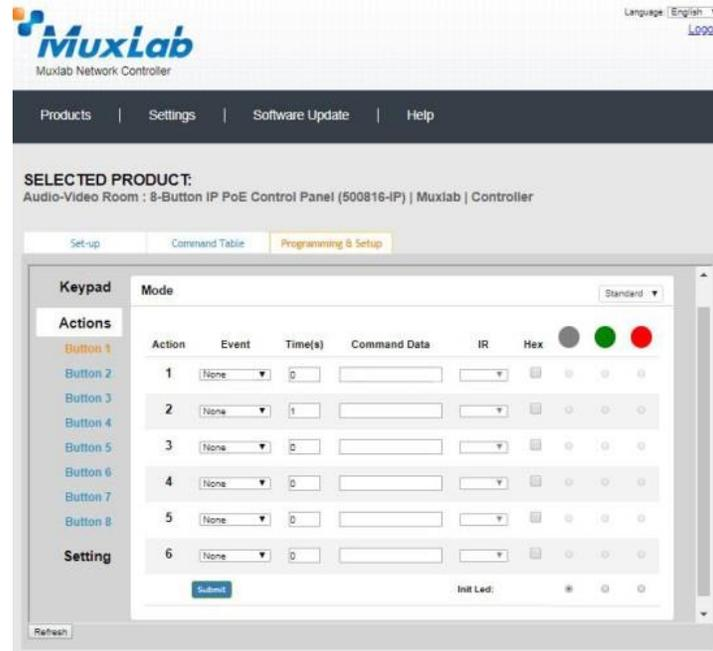

Figure 481: Programming & Setup Tab – Actions
- Actions: Allows the user to program commands for all 8 buttons (Figure 481).
- Select the “Times” value - Each button press can execute up to 6 events. A time delay between each event can be set. Time(S) is the time delay set between 2 events (in seconds). As there is just one command in this example, select time = “0”.